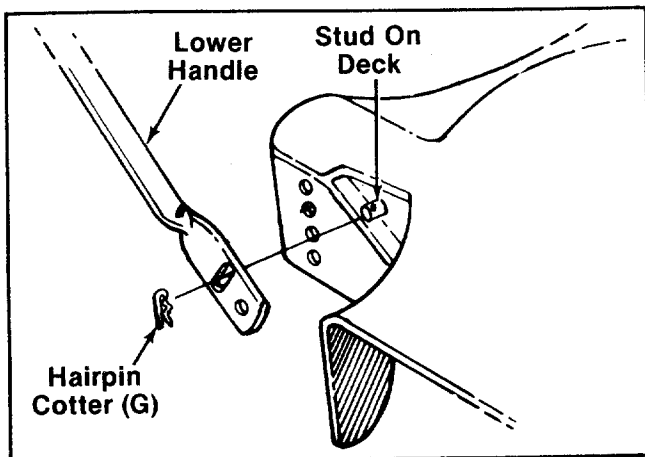

FIGURE 2.
- ← 3. Place **upper slotted hole** in lower handle over studs located in front of each rear wheel. Secure with hairpin cotter (G) provided in hardware pack. See figure 2.
Figure 2 is shown with the rear wheel removed for clarity. It is not necessary to remove wheel for handle assembly.